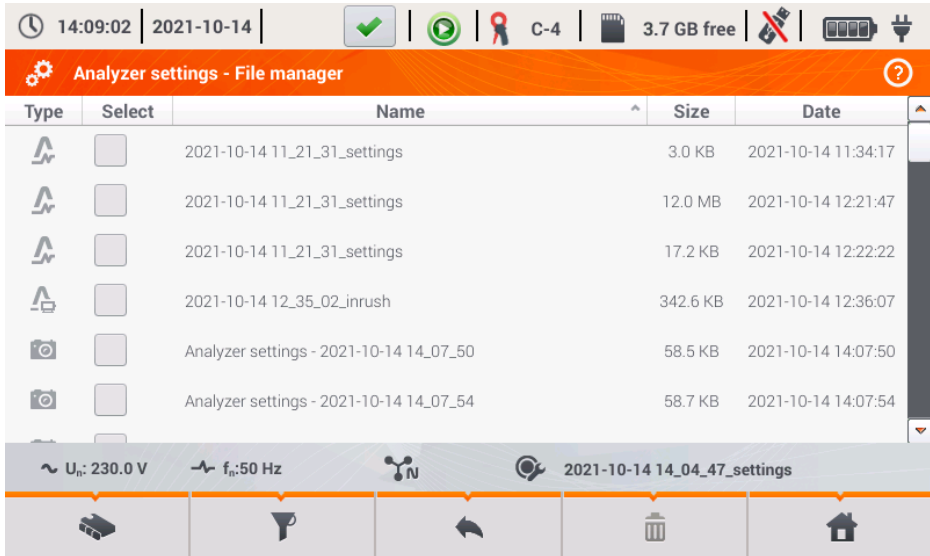

Fig. 19. Analyzer settings - File manager.
- **FILES** - This panel allows user to view and manage files saved in the storage media of the analyzer. After selecting it, a window appears with a list of files as shown in Fig. 19.